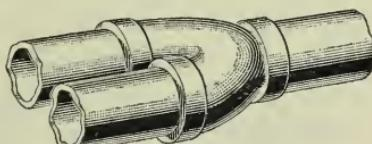

FIG. 45
**61.** **Back-outlet return bends** are used chiefly in coil work, or where two coils are connected into one pipe, or two pipes running parallel are joined to one, as shown in Fig. 45.